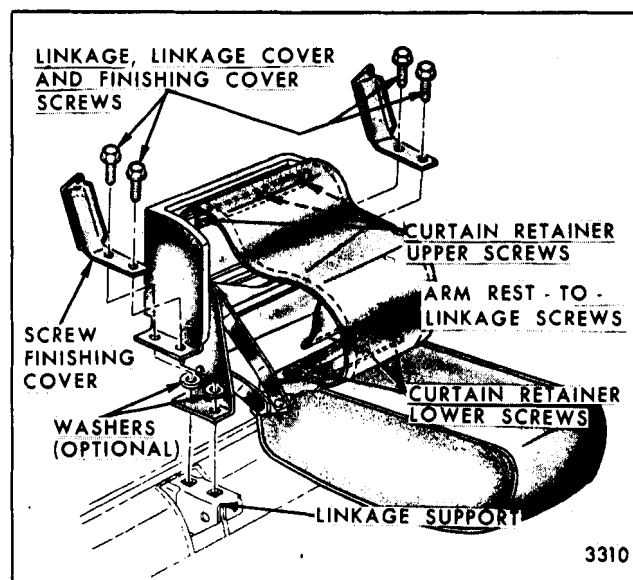

Fig. 14-35-Front Seat Center Arm Rest (Full Width Seat with Notch Down Seat Back)
2. Carefully pull curtain back sufficiently to remove screws securing center arm rest to linkage and loosen outer screws securing curtain lower retainer to arm rest (Fig. 14-35).
3. Disengage arm rest from support linkage and turn arm rest upside-side down on trim panel finishing cover. Remove arm rest curtain upper retainer screws (Fig. 14-35); then, remove arm rest and curtain from seat.
2. Working between arm rest and seat back, remove fastener at both sides of arm rest securing front end of screw finishing covers (Fig. 14-35).
3. On two-door styles, push one seat back to full forward position. Carefully pull up front of screw finishing cover sufficiently to expose arm rest linkage and linkage cover attaching screws; then, remove screws (Fig. 14-35). Repeat this operation on opposite side of arm rest; then, carefully remove arm rest linkage cover and linkage assembly from seat.
NOTE: If washers are present between arm rest linkage and linkage supports on seat (Fig. 14-35), note location and number of washers used to
4. To install, reverse removal procedure. Prior to bending down screw finishing covers, check alignment and operation of arm rest. Where necessary to align arm rest with seat back(s) install washer(s), as required, between arm rest support and support on seat (Fig. 14-35).